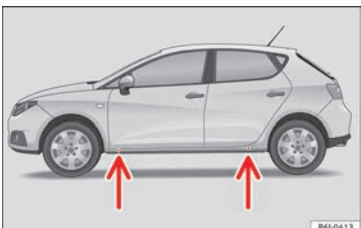

Fig. 59 Jack position points.
- Find the support point on the strut (sunken area) closest to the wheel to be changed » Fig. 59.